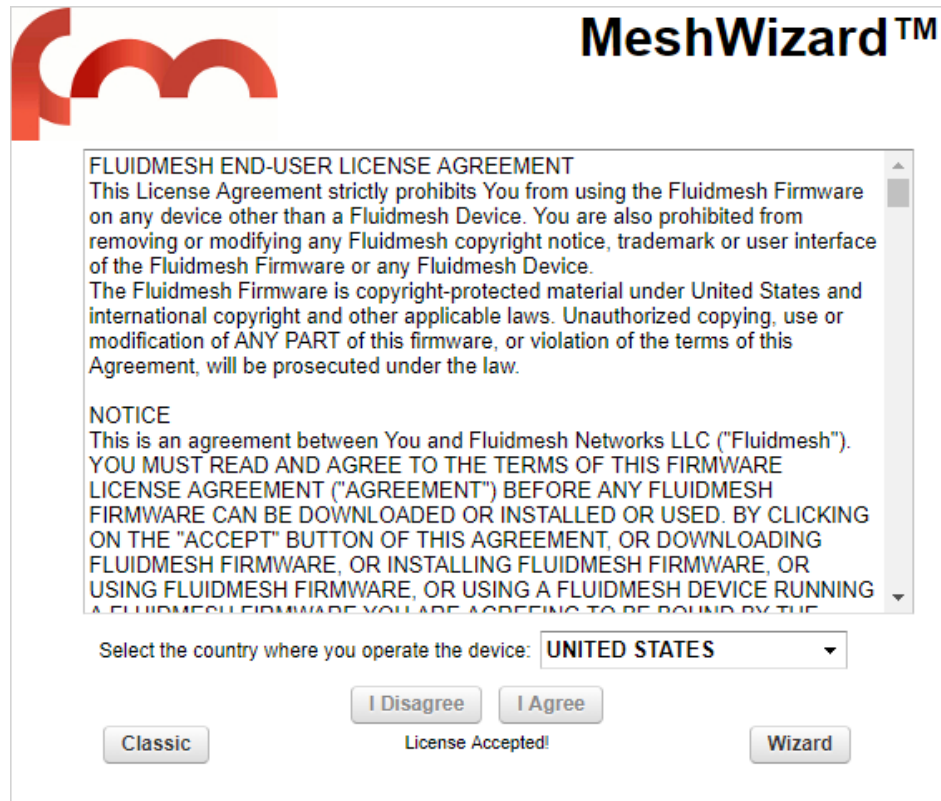

Figure 13. MeshWizard (End-user license agreement dialog)
- The MeshWizard end-user license agreement dialog will be shown (Figure 13 (page 42)).